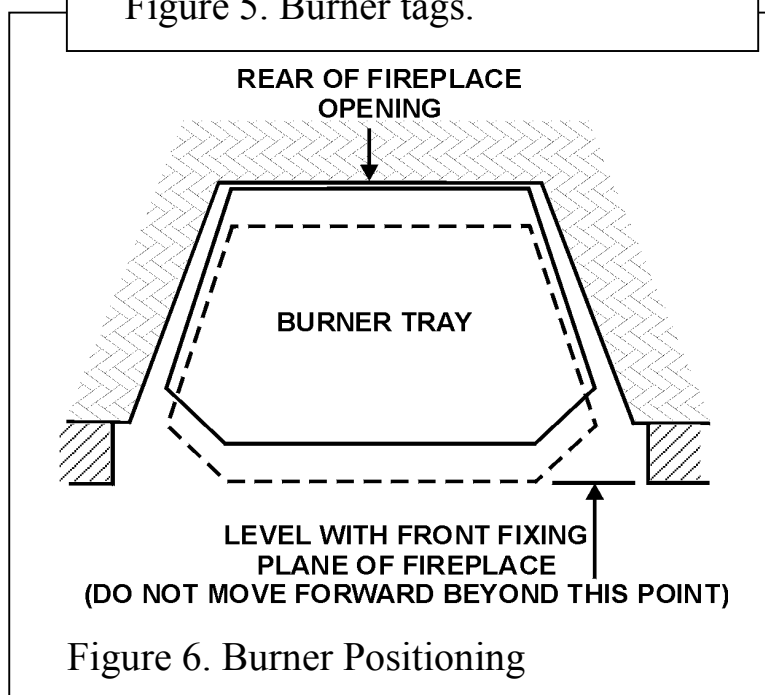

Figure 6. Burner Positioning
- Place the burner unit centrally within the fireplace opening. Position the burner to the rear of the opening, this may be extended forward providing the front of the burner tray does not protrude beyond the front plane of the fireplace opening (See figure 6).